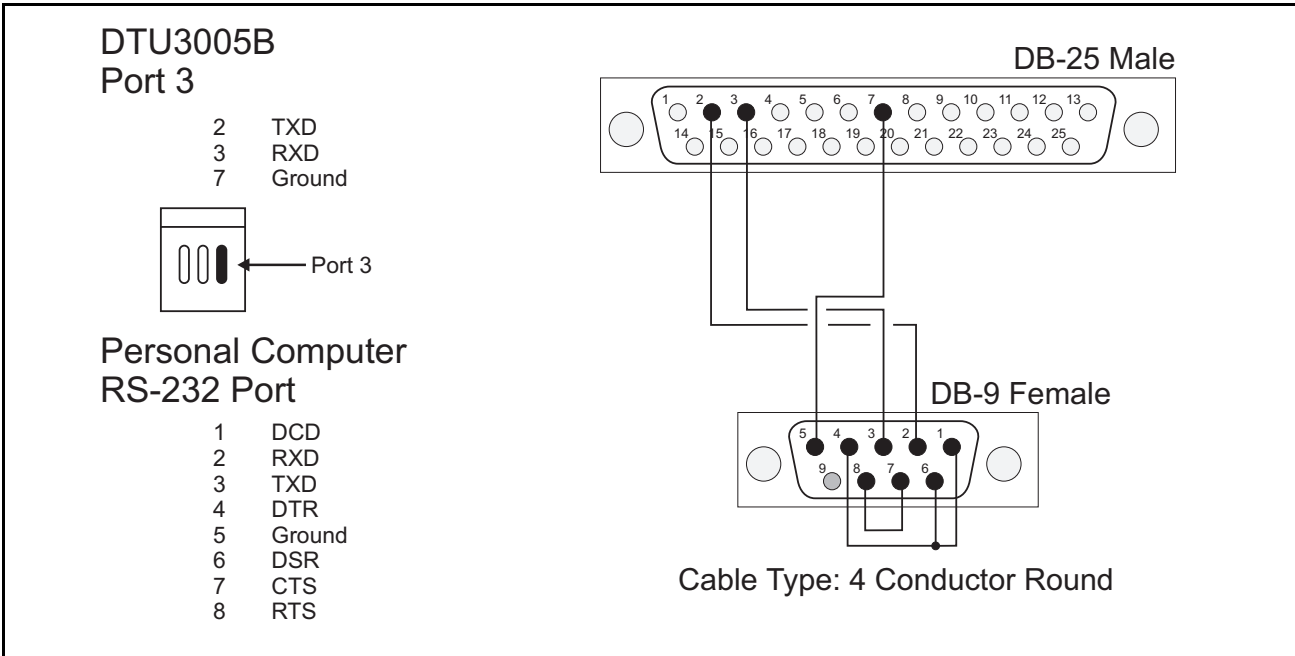

Figure 7.1 Null Modem Cable connection
The null modem cable will cross pins 2 and 3 (RXD and TXD). On the computer end of the cable, pins 7 and 8 (RTS and CTS) should be connected together. Also pins 1, 4, and 6 (DCD, DTR and DSR) should be connected together. The cable diagram is illustrated in **Figure 7.1**. In addition, the DIP switches on the front of the DTU3005B unit must be set to configuration mode as described below.
2. Set the DIP switches to configuration mode per the DIP switch settings listed below in **Table 7.1** and shown in **Figure 7.1**.